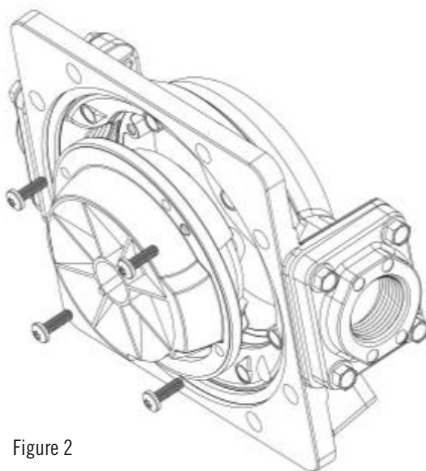

Figure 2
The Meter Chamber consists of upper and lower chambers, a nutating disc, and four screws (Figure 2).
2. The meter chamber can be dislodged by removing the 4 screws (see Figure 2).